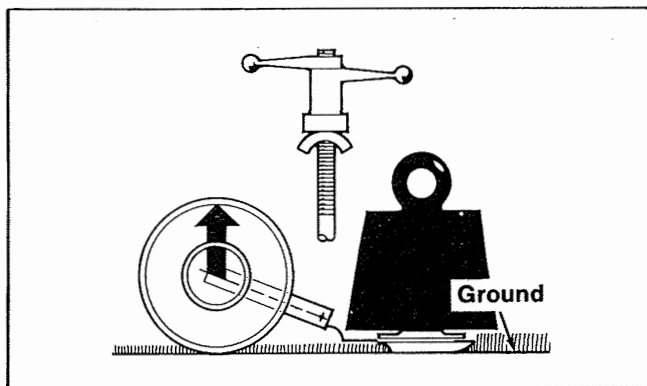

Fig. 9
3. Rotate the bottom Wing Nut Handle counter-clockwise to increase pressure and clockwise to decrease pressure (Figs. 9 & 10).